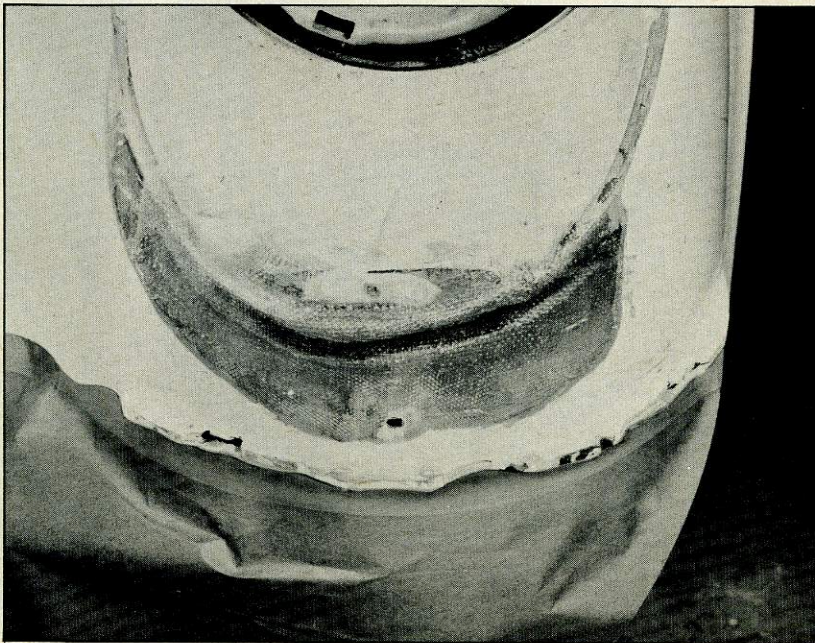

Figure 22
9. Position plastic impregnated fibre glass over the fracture on the exterior of the panel, lap the break by 1 to 2 inches (fig. 22), and depress into fracture.